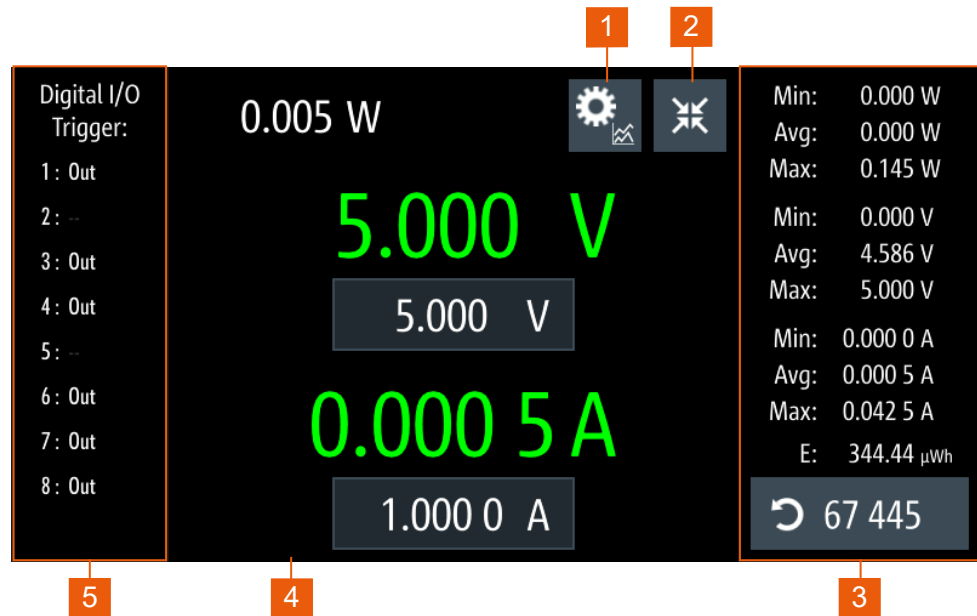

Figure 5-9: Detailed channel display area of a 4-channel instrument model
The "Expand/Collapse" softkey opens the detailed channel display area window with additional information, such as the channel historical information and the optional digital I/O trigger configuration. See Figure 5-9.
- 2 = "Expand/Collapse" softkey toggles between home window and the detailed channel display area window, see Figure 5-9